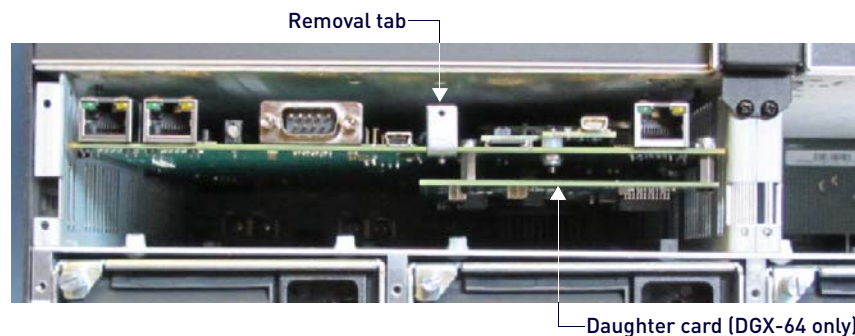

FIG. 147 Use removal tab to pull CPU straight out
5. Use the removal tab indicated to pull the CPU board assembly straight out of the enclosure (FIG. 147):